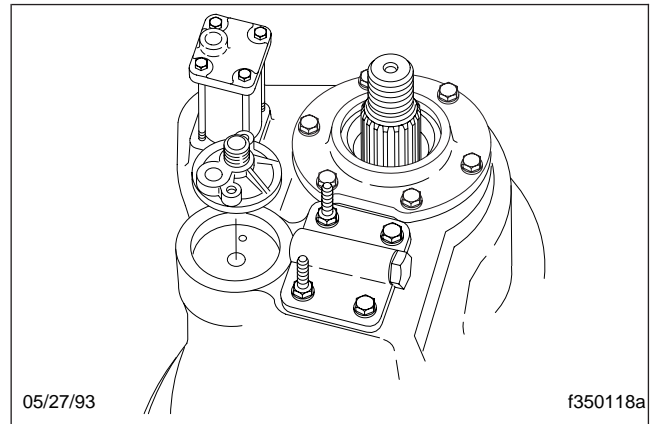

Fig. 7, Axle Oil Filter Adapter Removal and Installation
- 3.3 Remove the capscrews, washers, and oil filter adapter from the gear cover; then inspect the threads of the filter mounting tube and adapter casting. See **Fig. 7**. If the threads are stripped or the casting is cracked, replace the damaged component.